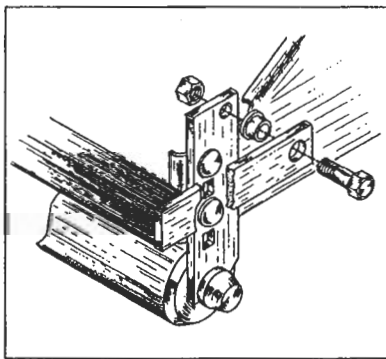

FIG. 7
- C) Align hole in bracket with the top hole in the roller bracket as shown in **FIG. 7**. Position carriage bolt through the bracket, and through the bushing & attachment bracket of the wing.